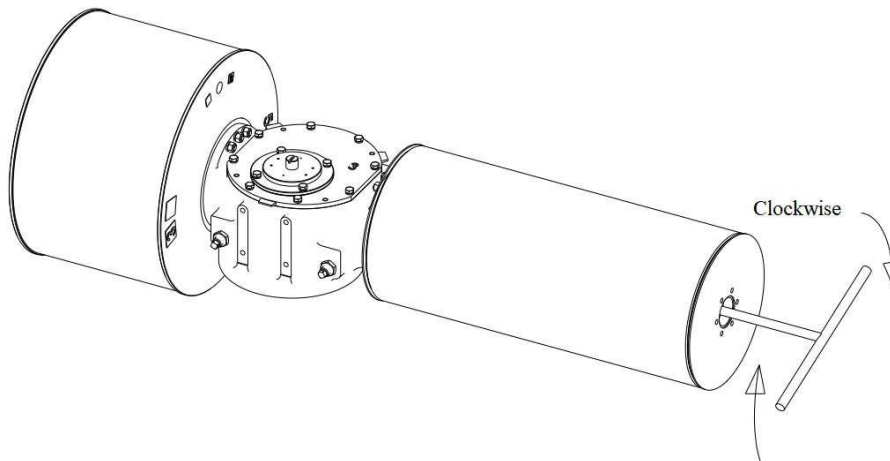

Figure 12
4) Insert the special tool provided by the factory into the cylinder module and insert it into the end of the piston rod, as shown in Figure 12;
6) Rotate the special tool clockwise in the direction shown in Figure 12 to combine the piston rod with the transmission joint. Refer to Table 8 for the torque;